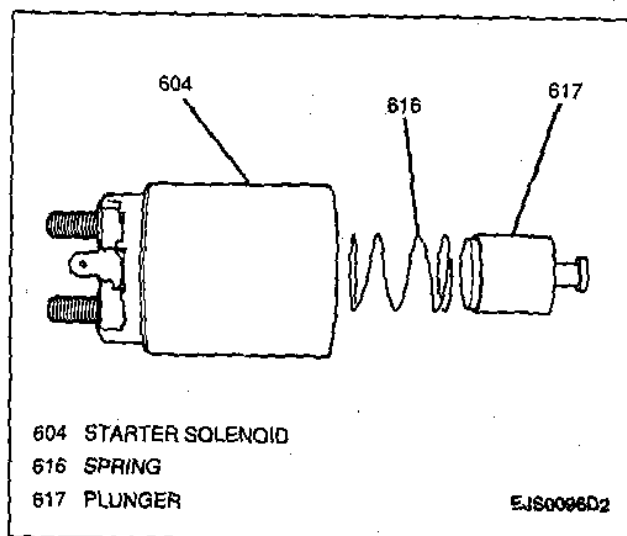

Figure 9—Solenoid Assembly
- Plunger joint and spring for wear; replace as necessary (Figure 9).